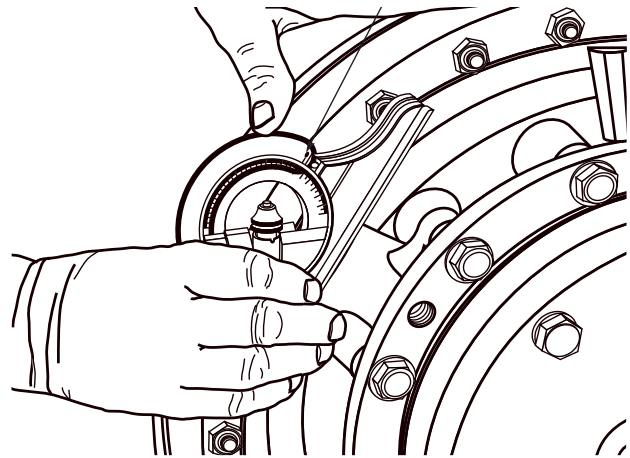

Figure 7
- B. Using a bevel protractor with spirit level, set the protractor for the required fill angle and place it on flat boss of filler hole as shown in Figure 7.